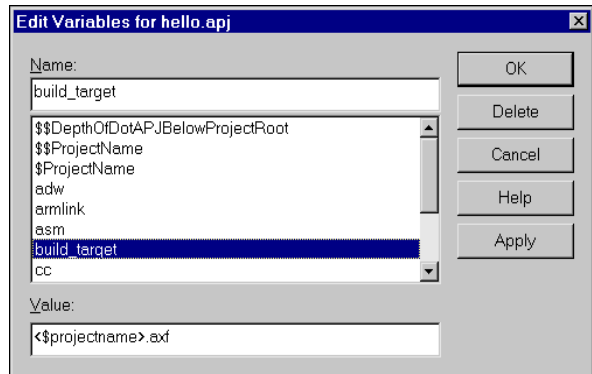

Figure 2-12 Edit Variables dialog
1. Select **Edit Variables for *projectname.apj*** from the **Project** menu. The Edit Variables dialog is displayed (Figure 2-12 on page 2-30).